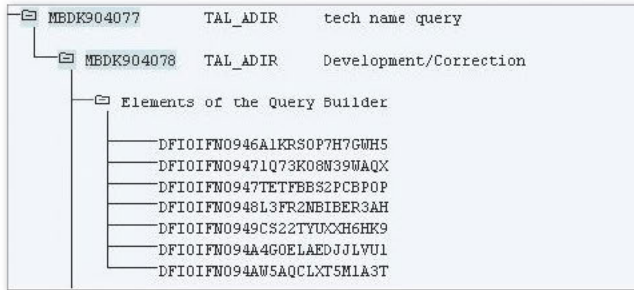

Figure 1 Query Elements
1. Log in to your SAP NetWeaver BW system and run Transaction SE09. As shown in Figure 1, you can see the query elements in the transport.
5. Now you can enter other IDs from Figure 1 to understand which query IDs belong to the respective query